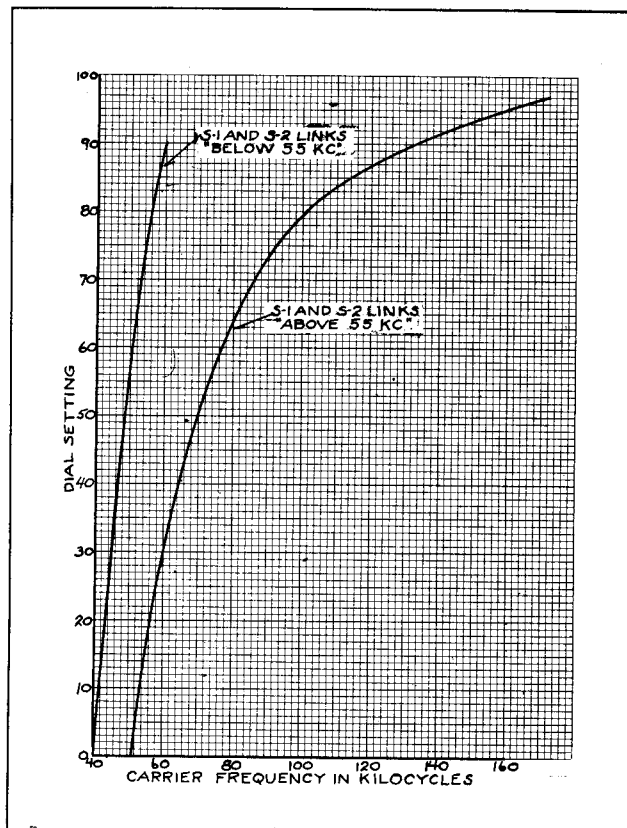

Fig. 5—Dial Calibration Curve of the 50-150 Kc Broad Band TRF Receiver of the S#867935 Type JY Carrier Receiver.
- c. Set the PRIMARY TUNING NO. 2 dial and the SECONDARY TUNING NO. 2 dial for the desired frequency, as indicated on dial calibration curve Figs. 5 and 6. If the desired frequency is below 55 kilocycles on the 50-150 kc receiver, use the curve marked BELOW 55 KC. If the desired frequency is above 55 kilocycles, use the curve marked ABOVE 55 KC. These curves show the approximate dial settings.